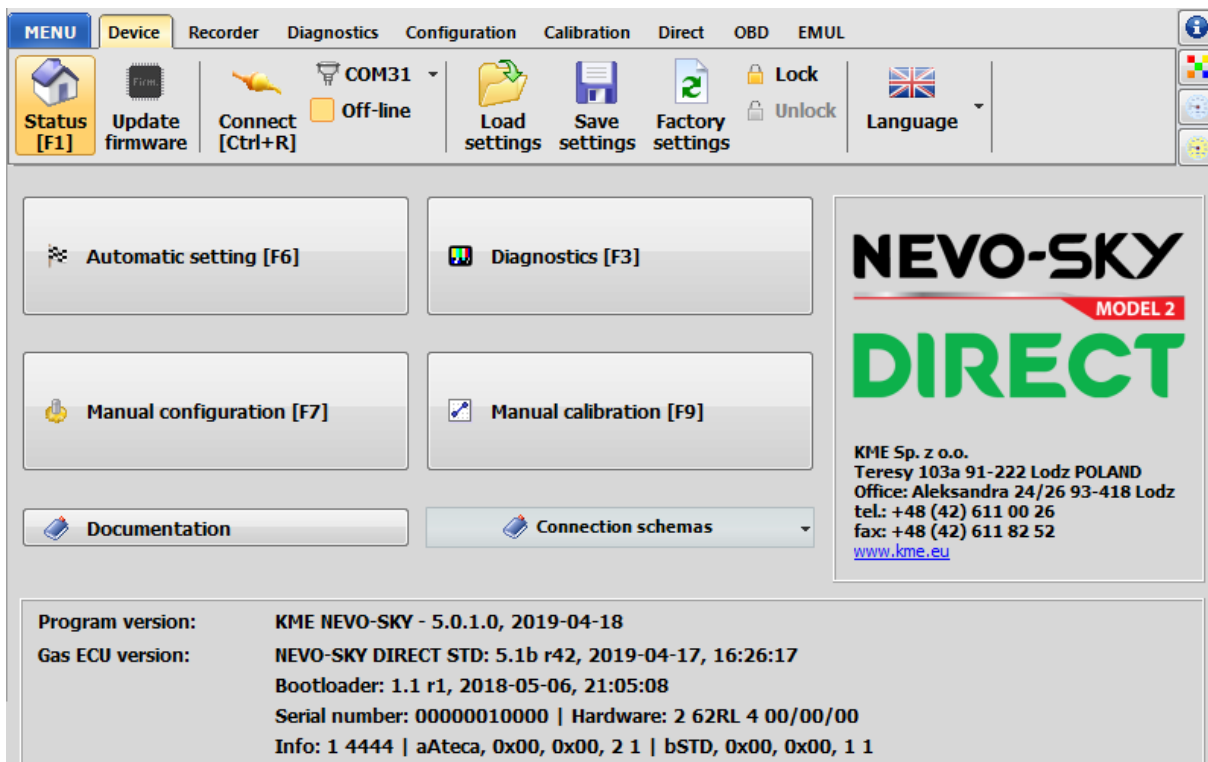

Fig. 2.24 Status page
- **Status** [F1] – displayed after starting the program, shows the current status of the controller and program: software version, hardware version, serial number, and shortcut keys to the most important functions (**Fig. 2.24**).